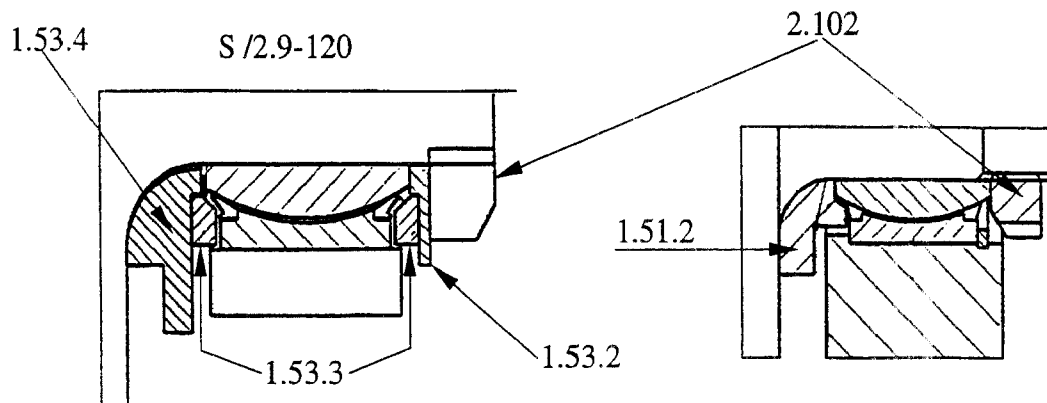

Figure 1 Mounting of the balancing springs.
8. Apply grease on washer <1.53.3>, both sides. Mount on shaft as shown in Figure 1.
Turn the KM-nut depending on robot version, see Figure 1.